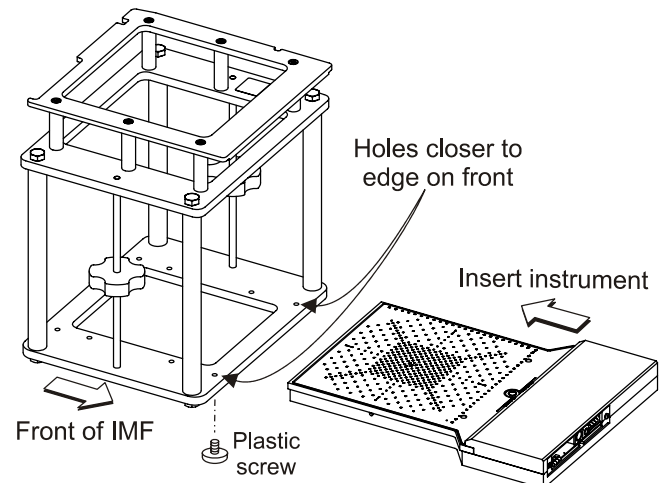

Figure 2. Installing MapCHECK in IMF
- 3 Insert the instrument into the IMF (Figure 2) and align the four outer threaded holes in the bottom of the instrument with the matching holes in the bottom plate of the IMF.
**CAUTION:** Insert the instrument as shown in Figure 2 to keep the center detector aligned with the beam axis.
- 4 Secure the instrument to the bottom plate with the four, 1/4-20, plastic cap screws (Figure 2) furnished with the IMF. Do not use the three leveling screws.
- 5** Insert the instrument into the IMF (Figure 2) and align the four outer threaded holes in the bottom of the instrument with the matching holes in the bottom plate of the IMF.
- 6** Secure the instrument to the bottom plate with the four, 1/4-20, plastic cap screws (Figure 2) furnished with the IMF. Do not use the three leveling screws.
- 4** Insert the instrument into the IMF (Figure 2) and align the four outer threaded holes in the bottom of the instrument with the matching holes in the bottom plate.
- 5** Secure the instrument to the bottom plate with the four, 1/4-20, plastic cap screws (Figure 2) furnished with the IMF. Do not use the three leveling screws.